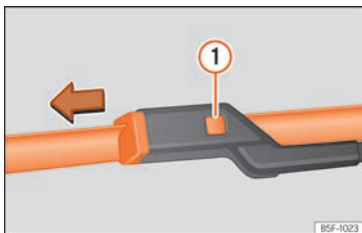

Fig. 161 Changing the windscreen wiper
- Press and hold release button >>> **Fig. 161 ①** and pull gently on the wiper blade in the direction of the arrow.